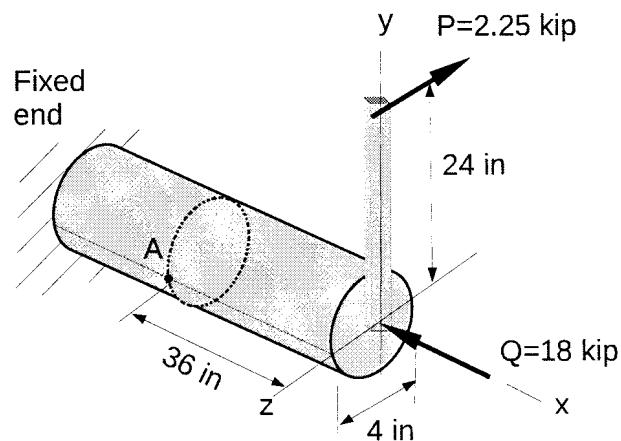

Figure 5.
5). A solid shaft diameter of 4 in. is acted on by forces P and Q as shown in Figure 5. Determine the principal stresses and the maximum shearing stress at points A on the surface of shaft. (Ans:  $\sigma_{p1} = 12.89 \text{ ksi (T)}$  )